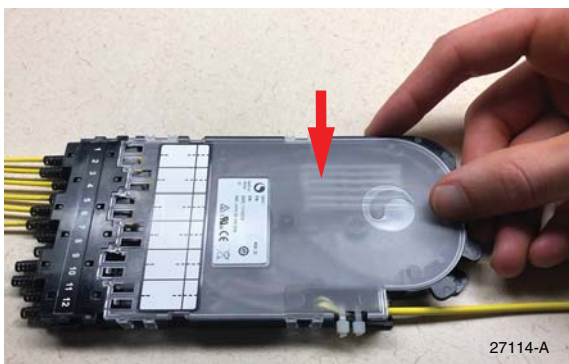

Figure 21. Re-Installing Cover
- Place cover into position and press down to snap it into place on the five tabs, as shown in Figure 21. Apply blank connection ID label as needed.